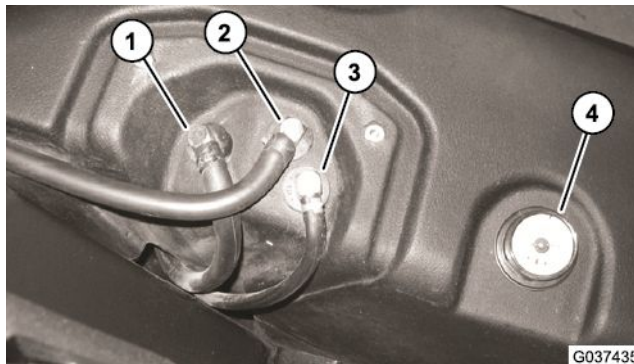

Figure 13
8. Disconnect the fuel supply hose (item 1 in Figure 13), vent hose, and fuel return hose from fittings in the top of the fuel tank.